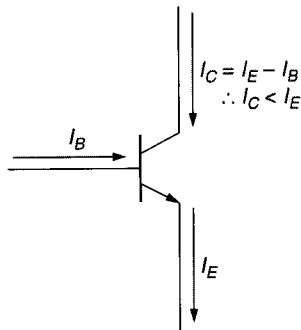

FIGURE 6.15 Why alpha is always less than unity.
The alpha rating of a given transistor is *always less than unity* (1). The reason for this is illustrated in Figure 6.15.